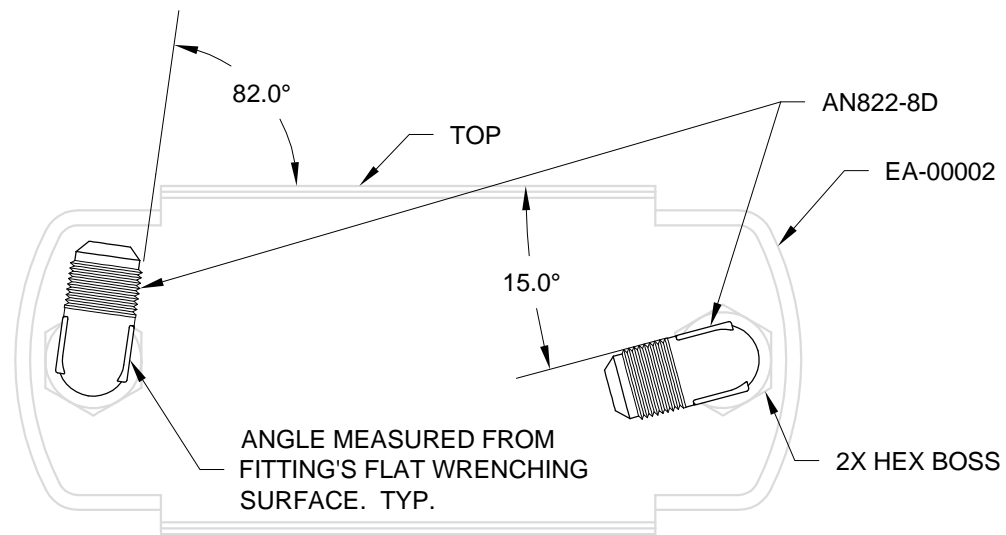

FIGURE 1: OIL COOLER FITTINGS INSTALLATION (TRI-GEAR)
Step 1: (Tri-Gear) Install the two elbow fittings into the EA-00002 Oil Cooler 2006X as shown in Figure 1.